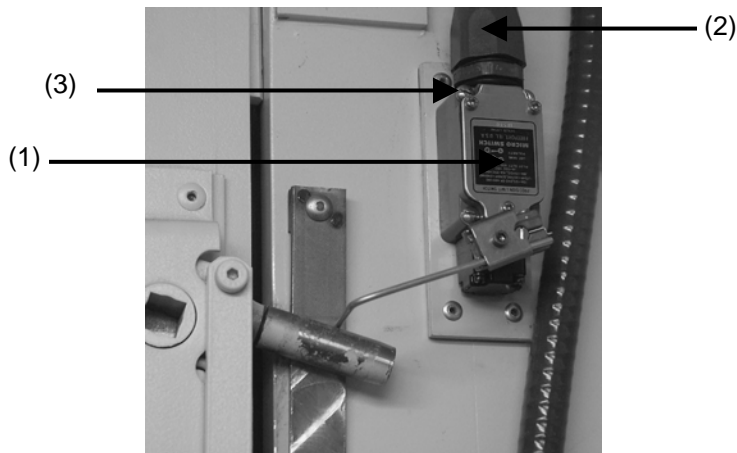

Figure 4-48. Limit switch.
2. Loosen captive screws and remove limit switch cover (1) (Fig. 4-48).
5. Remove screws (3) holding limit switch to limit switch mounting plate (Fig. 4-48).